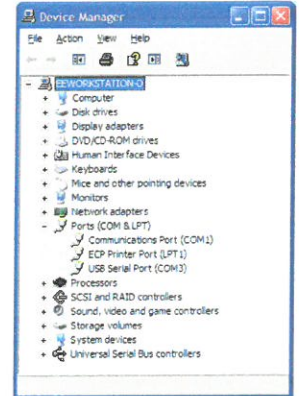

Figure 3
4.1.7. Now we need to determine what COM PORT the EasySync USB to RS485 Adapter is using. Open the DEVICE MANAGER by running devmgmt.msc (START->RUN->type devmgmt.msc ->OK). DEVICE MANAGER opens. Click the + symbol next to Ports (COM & LPT) and you will see "USB Serial Port (COM#)". This is the COM PORT that the EasySync USB to RS485 is using. Remember this COM PORT as you will need it when you run the BatteryDiag and FWupdate applications later (see figure 3).
4.3.4. In the upper right hand corner of the BatteryDiag application, select the COM PORT that the EasySync USB to RS485 Adapter is using on your PC. Refer to step 4.1.7 (also see figure 3). Now hit the "OpenCOM" button to connect to the Valence Batteries.
4.4.2. In the upper left hand corner of the FWupdate application, select the COM PORT that the EasySync USB to RS485 Adapter is using on your PC. Refer to step 4.1.7 (also see figure 3). Now hit the “OpenCOM” button to connect to the Valence Batteries.